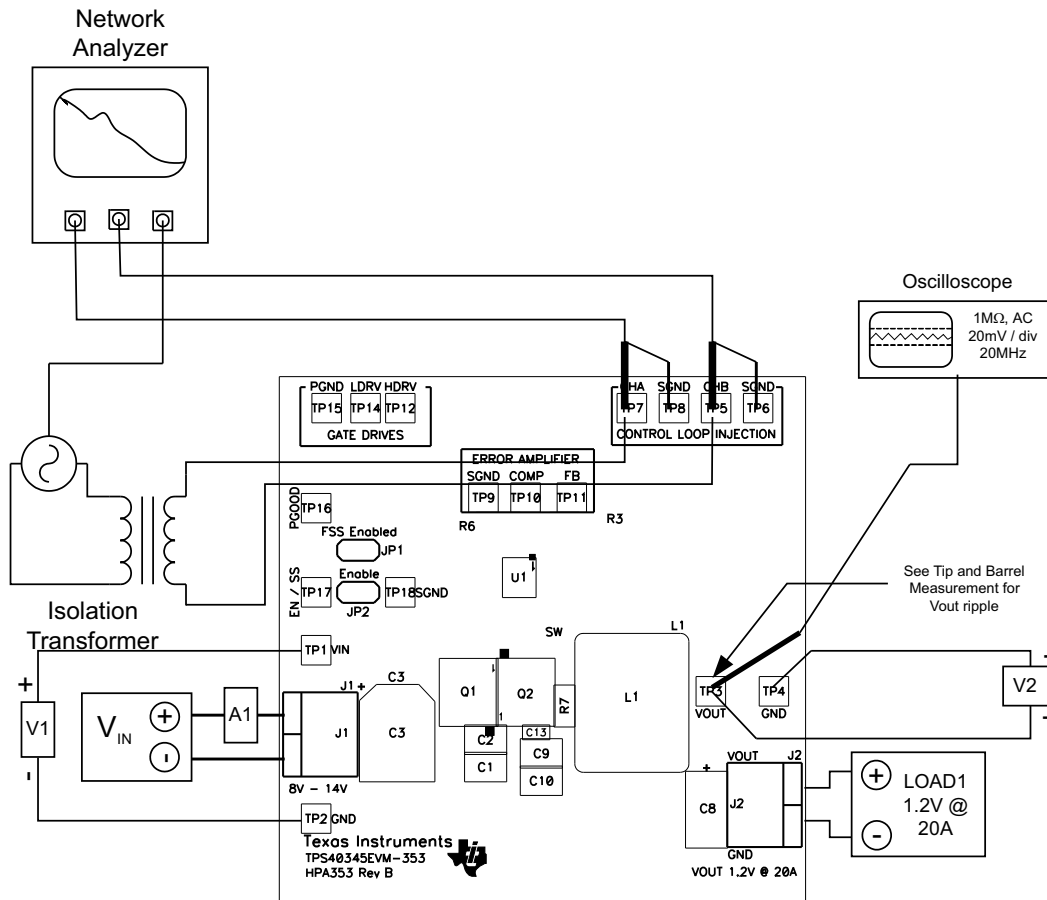

Figure 4. Control Loop Measurement Setup
The TPS40345EVM-353 provides four test points (2 signal and 2 ground) for measuring the control loop frequency response. This allows the user to measure the actual module loop response without modifying the evaluation board. A transformer isolated signal up to 30 mV can be injected between TP5 and TP7. The injected signal amplitude can be measured by the ac coupled amplitude at CHA (TP7) and the resulting output voltage deviation can be measured at CHB (TP5). See Figure 4 for additional detail.
2. Connect a 1-kHz – 1-MHz isolation transformer to TP5 and TP7 as shown in Figure 4.
3. Connect input signal amplitude measurement probe (channel A) to TP7 as shown in Figure 4.
4. Connect output signal amplitude measurement probe (channel B) to TP5 as shown in Figure 4.
5. Connect ground lead of channel A and channel B to TP6 and TP8 as shown in Figure 4.